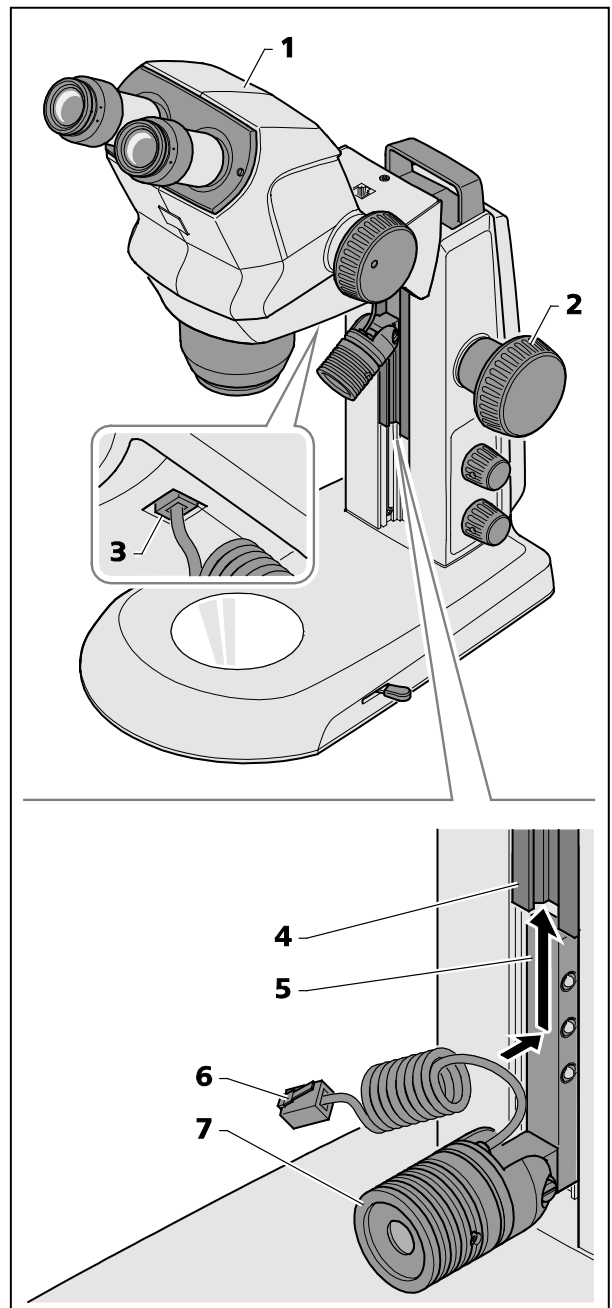

Fig. 8 Mounting spot illuminator
- Move the microscope body (Fig. 8/1) into its uppermost position via the focusing knob (Fig. 8/2).
- Insert the spot illuminator (Fig. 8/7) in the stand by sliding the holder (Fig. 8/5) into the stand guide (Fig. 8/4) from below and push it upwards into the required position.
- Plug the connection cable (Fig. 8/6) of the spot illuminator into the lower socket of the Stemi mount (Fig. 8/3).